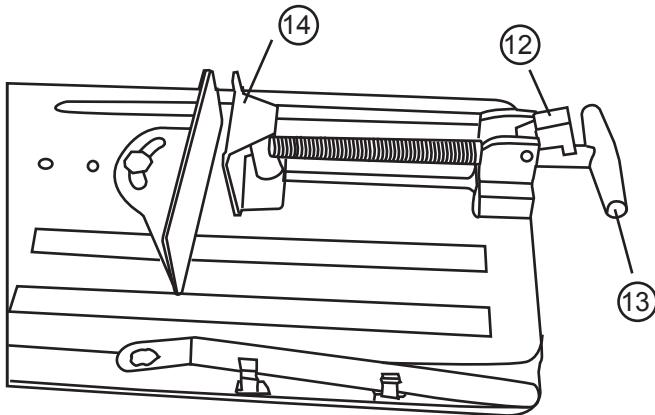

Figure 3: Vise Functions
- > To use the Quick Release, put the Quick Release tab in the position shown on the in Figure 3 and push the Vise up against the workpiece. Then tighten the Vise Crank. When releasing, loosen the Vise Crank about a turn, lift up the Quick Release, and pull the Vise Crank open.